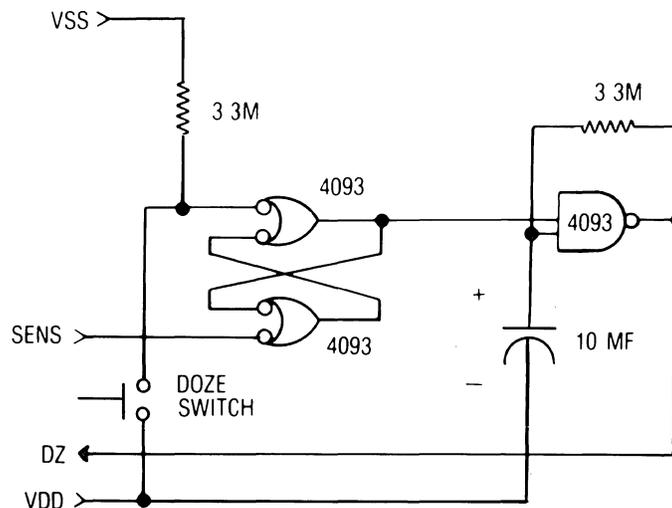

FIGURE 7 DOZE CIRCUIT
**DOZE CIRCUIT: (Fig. 7).**
The Doze circuit shown in Fig. 7 generates a slow clock (0.04Hz) at the DZ terminal. If the sensor plate (Fig. 5) is not touched, the SENS terminal of the Doze circuit of Fig. 7 sits at a logical high level. A momentary pressing of the Doze switch sets the SR flip-flop, enabling the oscillator. Every negative transition of the clock (DZ terminal) causes the light intensity to be reduced by equal increments, until eventually the light is shut off. The oscillator has no further effect on the dimmer circuit. When the light/motor is turned on again by touching the sensor plate, the SR flip-flop is reset and the DZ clock is turned off.